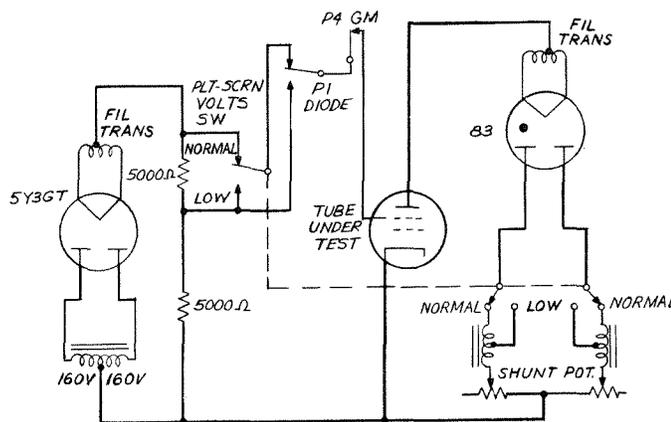

Fig. 8 - Plate and Screen Supply Circuit
2.34 Reduced Screen Voltage Test: An added function is incorporated, as shown in Fig. 8, with the operation of the DIODE P1 push-button switch to provide half-normal screen grid voltage (about 65 volts) in conjunction with a regular transconductance test only (GM P4 push button operated). This test is required principally for small battery powered or older type Western Electric Company tubes and tubes of other manufacture which normally operate with low screen grid voltage in the 60- to 100-volt range, to obtain more precise transconductance measurements. The use of half-normal screen grid voltage also minimizes the possibility of exceeding the maximum plate-screen power ratings of such tubes under test.
2.35 LOW PLT.-SCRN. VOLTS Test: Supplementing the reduced screen voltage test described in 2.34, the transconductance measuring circuit now includes a low plate and screen voltage test option applicable to any micromhos range. This test function is shown in Fig. 8 and is controlled by a 2-position LOW-NORMAL selector switch located to the right of the FILAMENT selector switch. The low 65-volt plate-screen value is useful for testing all tubes requiring lower test voltages, such as low-voltage battery types, miniature and subminiature tubes in particular.